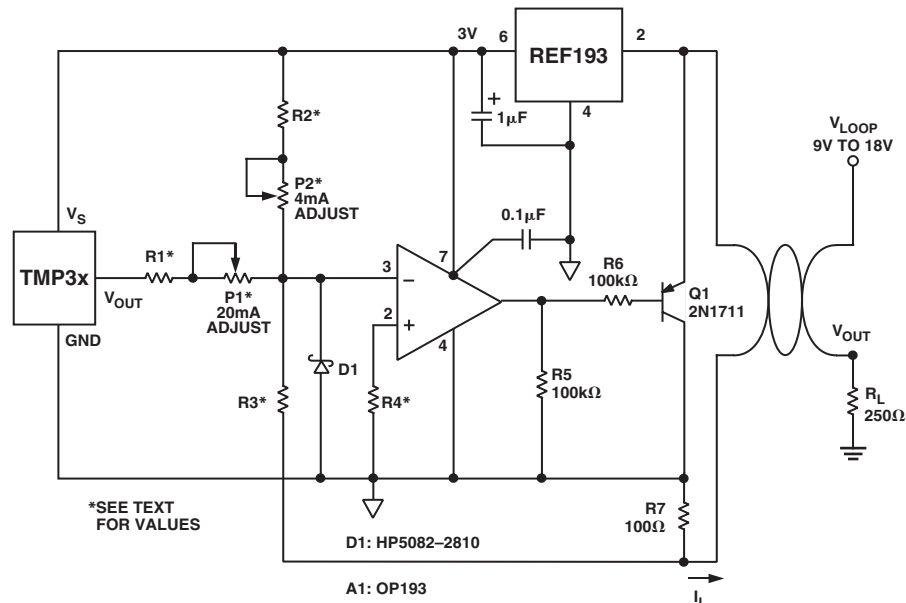

Figure 10. A Temperature to 4-to-20 mA Loop Transmitter
A circuit that transmits temperature information in this fashion is illustrated in Figure 10. Using a TMP3x as the temperature sensor, the output current is linearly proportional to the temperature of the medium. The entire circuit operates from the 3 V output of the REF193. The REF193 requires no external trimming for two reasons: (1) the REF193’s tight initial output voltage tolerance and (2) the low supply current of TMP3x, the OP193 and the REF193. The entire circuit consumes less than 3 mA from a total budget of 4 mA. The OP193 regulates the output current to satisfy the current summation at the noninverting node of the OP193. A generalized expression for the KCL equation at the OP193’s Pin 3 is given by: